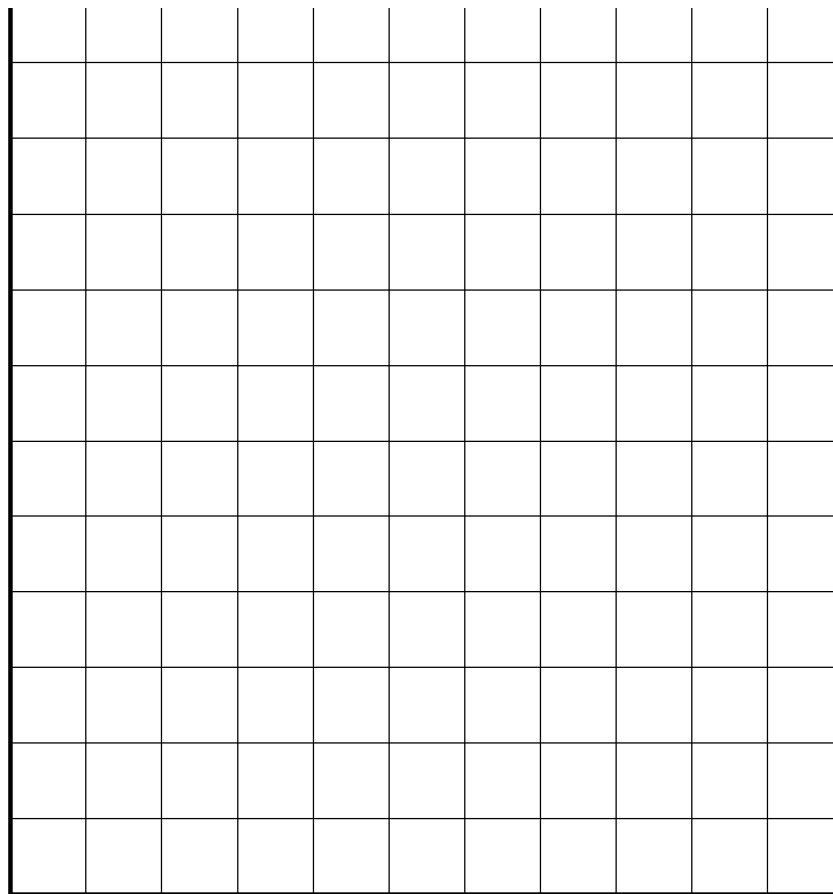

Fig. 5.2.3: Characteristic of the equivalent voltage source
- From the measured values, draw the characteristics for off-load and short circuit conditions at the equivalent voltage source, in Fig. 5.2.3.
- Mark the points for the 3 loading conditions on the characteristic in Fig. 5.2.3.